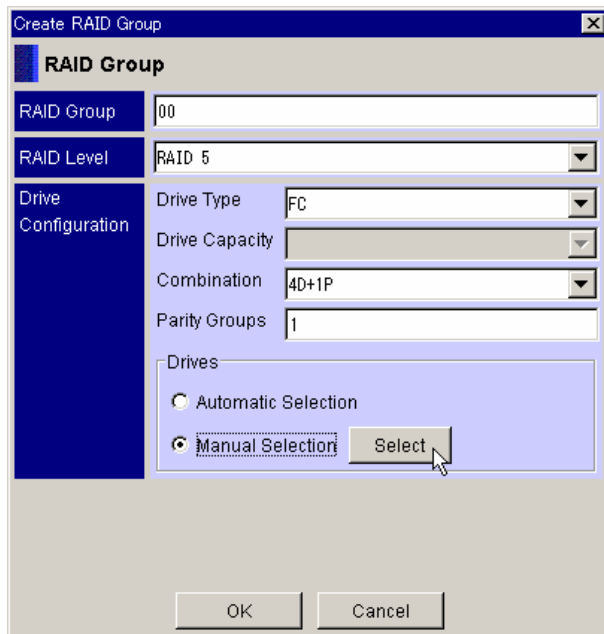
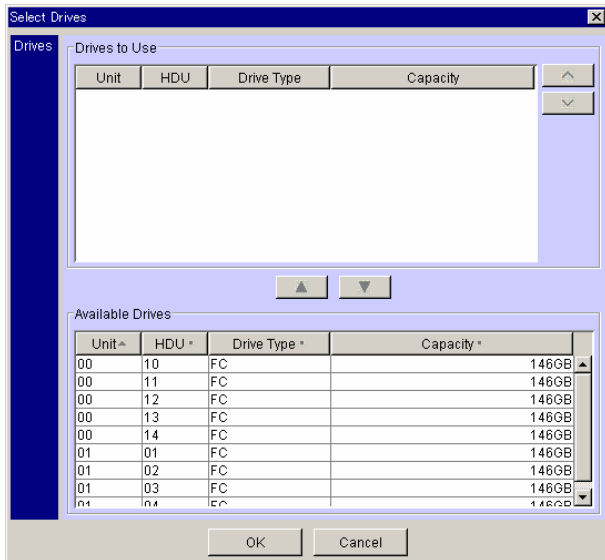

Figure 6.4 Create RAID Group Window (manual selection)
Figure 6.5 Select Drives Dialog Box (before selecting drive)
- Click the **Manual Selection** radio button, and then click **Select** (see Figure 6.4) to open the **Select Drives** dialog box (see Figure 6.5).